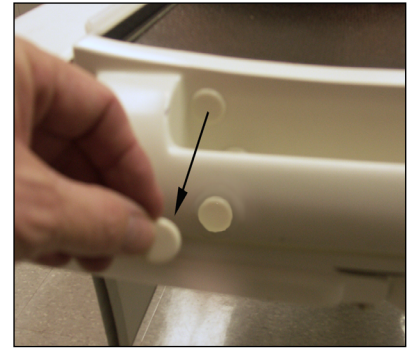

Fig. 22
1. Remove screw covers (2) from CT cradle as shown in the picture on the right (Fig. 22).